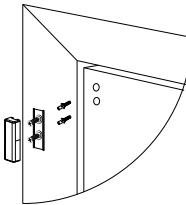

Figure 6: Magnet screw installation
3. Screw the magnet base on to the door, aligning it with the line on the device. See Figure 6.